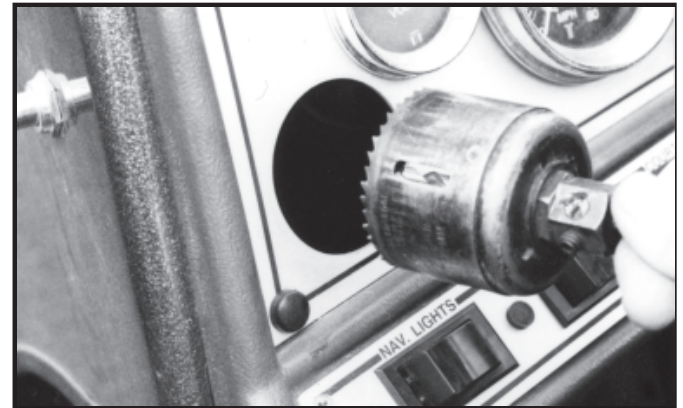

FIG. 23
Step 14: If the PT-130 was purchased with a trim gauge, find a good location for mounting it in your boat. This gauge is used to determine the position of the motor as it is tilted and trimmed. Cut a 2 1/8" hole in the location chosen. Make sure not to cut into any wiring or other brackets. (Fig. 23)